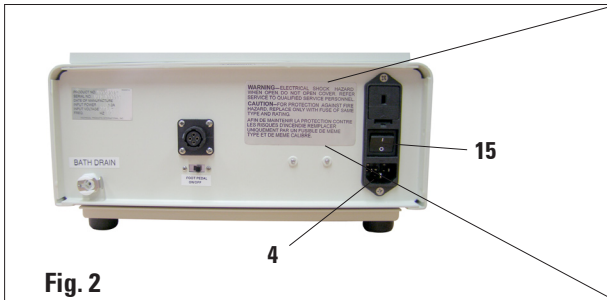

Fig. 2
- Observe the warning messages on the rear side of the instrument (Fig. 2). Only the components described in the section on "Replacing components" may be replaced by the operator.
- The instrument must be set up so that the main power switch on the left rear side of the instrument (item 14 in Fig. 2) is easily accessible at any time.